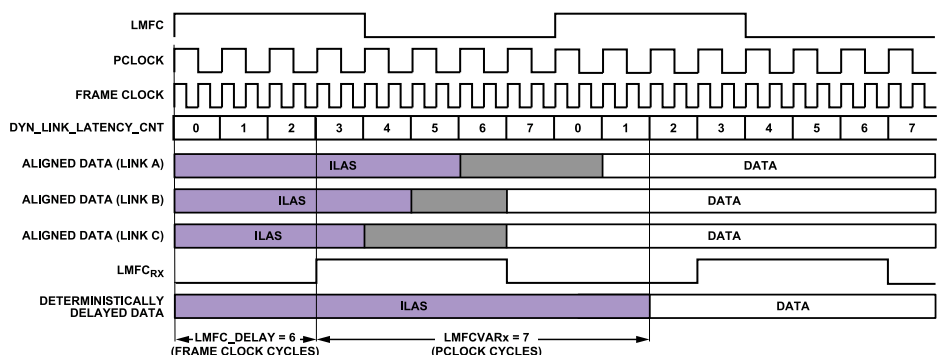

Figure 56. Multilink Synchronization Settings, Derived Method Example
Figure 56 shows how DYN_LINK_LATENCY_x (Register 0x302 and Register 0x303) provides a readback showing the delay (in PClock cycles) between LMFC_{RX} and the transition from ILAS to the first data sample. By repeatedly power-cycling and taking this measurement, the minimum and maximum delays across power cycles can be determined and calculate LMFCVar and LMFCDel.
The example shown in Figure 56 is demonstrated in the following steps according to the procedure outlined in the Without Known Delays section. Note that this example is in Subclass 1 to achieve deterministic latency, which has a PClockFactor (FrameClockRate/PClkRate) of 2 and uses K = 16; therefore PClocksPerMF = 8.
1. In Figure 56, for Link A, Link B, and Link C, the system containing the AD9154 (including the transmitter) is power cycled and configured 20 times. The AD9154 is configured as described in the Device Setup Guide section. As the point of this exercise is to determine LMFCDel and LMFCVar, the LMFCDel is programmed to 0 and the DYN_LINK_LATENCY_x is read from Register 0x302 and Register 0x303 for Link 0 and Link 1, respectively. The variation in the link latency over the 20 runs is shown in Figure 56 in gray.